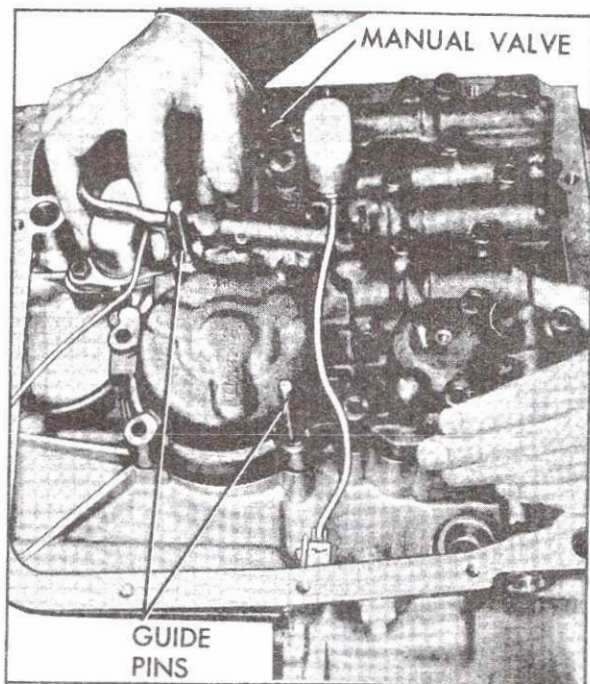

Fig. 7-204 Installing Control Valve Assembly
a. Using two guide pins, Fig. 7-204, install control valve assembly and governor pipe on